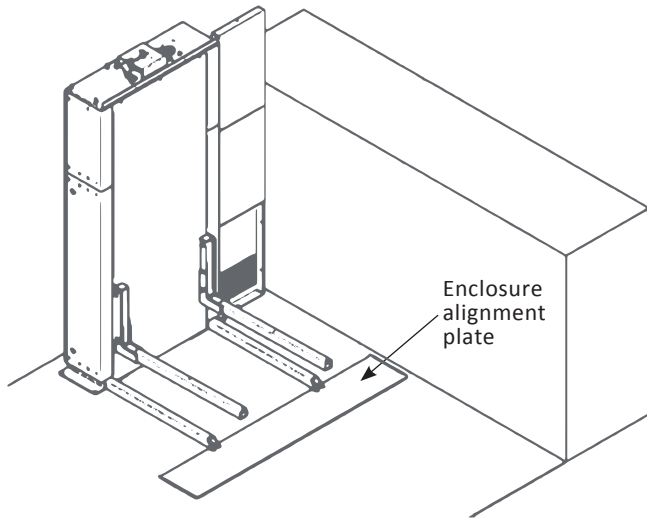

Figure 3-3
4. Put the enclosure alignment plate across the ends of the two tower legs. The plate is to ensure that you achieve the correct spacing of the vertical panels to the lift. **See Figure 3-3.**